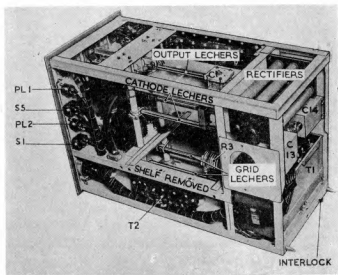
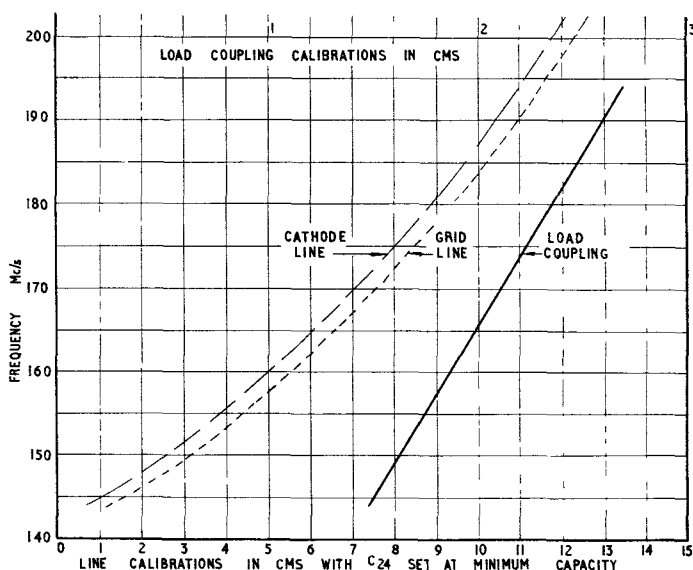

Fig. 20. Transmitter Type T.3117 : interior
Fig. 21. Calibration chart for transmitter Type T.3117
**65.** Disconnect the transmitter cables, and withdraw it from its case. Check that the mains tapplings (*fig. 20*) are set for 230V and that the link is set to HIGH.
- (1) Connect a voltmeter, by means of a jack plug and suitable lead, into the hole marked FIL 1 VOLTS and check that a reading of 3.45V is obtained. Repeat for FIL 2 VOLTS. If the readings are incorrect, adjust the tapping clips of resistances R2 and R3 (*fig. 20*).
- (2) Set the grid and cathode lechers shorting bars to the positions shown on the graph (*fig. 21*) according to the required operating frequency. The measurements given in the graph refer to the edges of the shorting bars nearer the valve.
- (3) Set the FREQ ADJ control to its mid position.
- (4) Replace the transmitter in its case, taking care to see that it is pushed well back so that the interlock circuit is completed (*fig. 20*). Reconnect the transmitter leads.
- (5) Remove the aerial feeder and connect the artificial aerial instead.
- (6) Switch on the mains supply ; the transmitter is now ready to be set up.